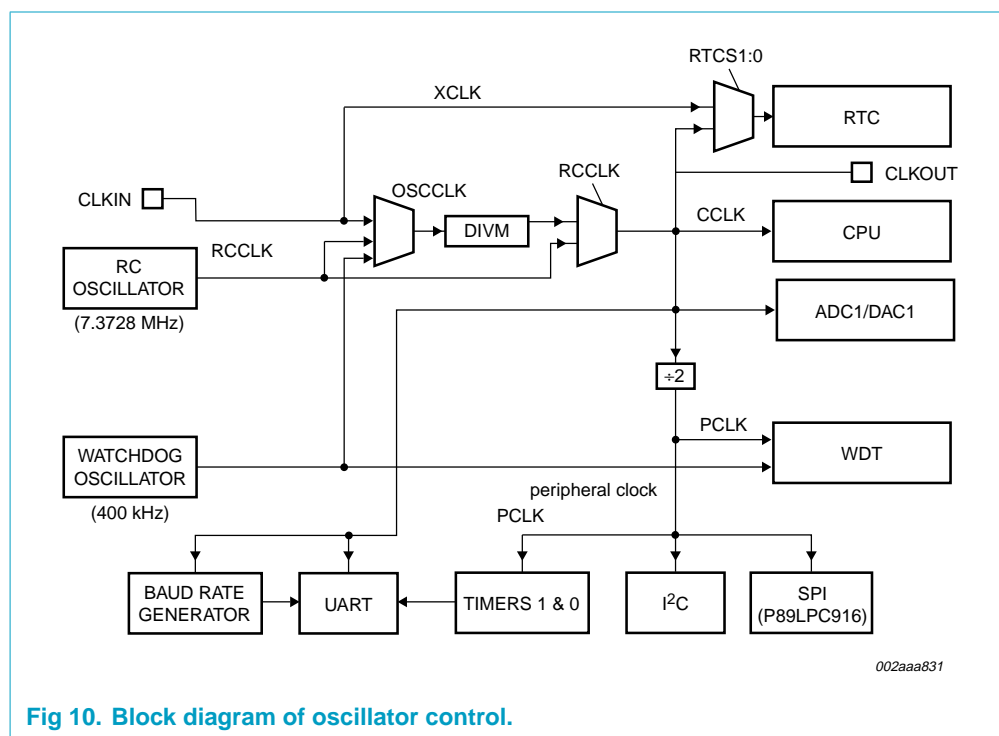

Fig 10. Block diagram of oscillator control.
**OSCCLK** — Input to the DIVM clock divider. OSCCLK is selected from one of three clock sources (see Figure 10) and can also be optionally divided to a slower frequency (see Section 9.7 “CPU Clock \(CCLK\) modification: DIVM register”).